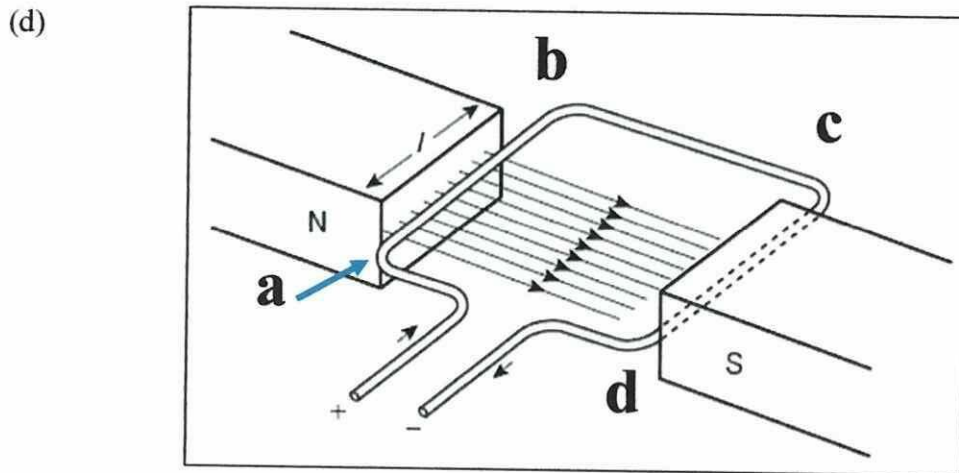

Figure Q1(d)
- (i) According to **Figure Q1(d)**, state the basic formula to produce induced e.m.f.
- (ii) By using suitable Flemming's hand rule, explain the operation of **Figure Q1(d)** in terms of direction of the rotor using the help of label a, b, c and d.